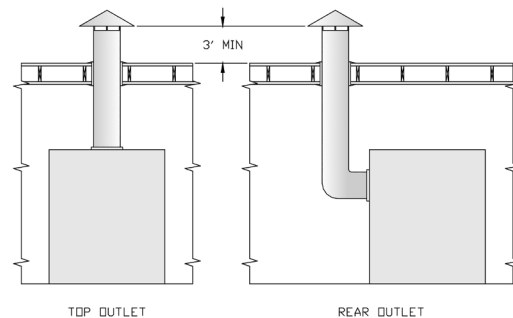

Figure 3a: Typical Arrangement For Stub Vent
The V11H Series boiler is designed for forced draft firing and may be used with a conventional natural draft stack (15' minimum height) or a stub vent, sometimes called a diesel stack (see Figure 3a). See Table I for the proper vent outlet size. For low silhouette vent
If the venting system is designed for positive or forced draft venting, the boiler, vent connector and stack will operate under positive pressure. Gas tight vent systems designed for pressure systems must be used to prevent flue by-product leakage. The vent height is usually limited to prevent negative draft, typically three (3) feet above the roof line (see Figure 3a). The damper shall be adjusted to maintain a positive pressure of 0.1" W.C. in the vent connector box during burner high fire operation (see breeching pressure sensing port in Figure 1).